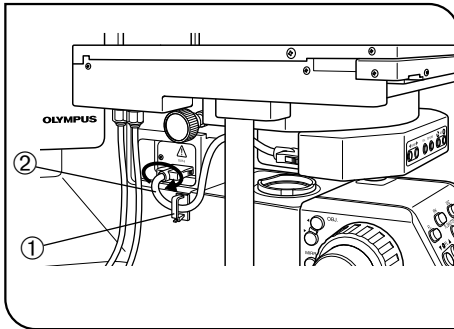

Fig. 12
**Operation using BX63 (Fig.12)**
8. Attach the cable holder ① to BX63.
9. Connect the interface cable ② to BX3-UCD8A.
10. Twist the interface cable ② once so that it bends toward the lower direction, and put it into the cable holder ①.
11. Connect the interface cable ② to BX63.